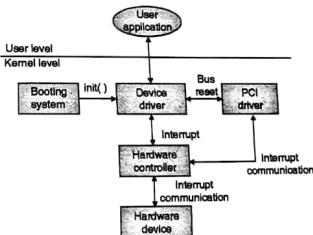

Fig. 13.10.3 : Device Driver Interaction
- A typical interaction of device driver is shown Fig. 13.10.3. A driver operation can be invoked or accessed in the following scenarios :